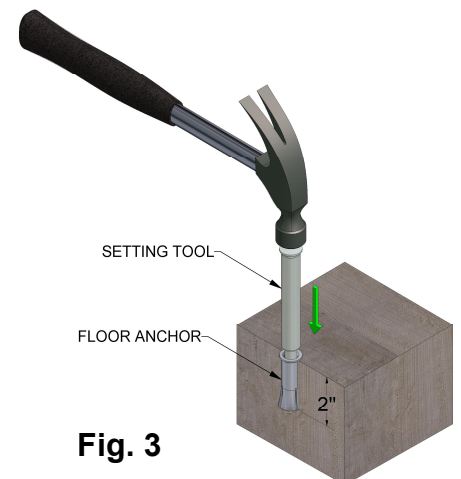

Fig. 3
THE STEP OF LOCKING OR SETTING THE ANCHORS IS CRITICAL. ENSURE THAT IT IS DONE CORRECTLY (FIG. 3)!
6. Using a punch or setting tool (customer supplied), set the floor anchor by striking the plunger in the center of the floor anchor. Strike the setting tool or punch with a hammer repeatedly, to expand the anchor in the hole (**Fig. 3**).